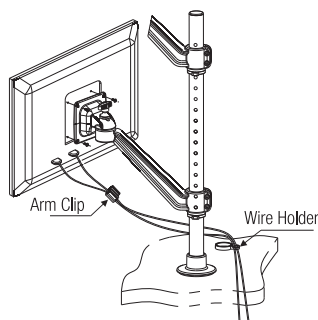

Fig. 5
6. Screw the flat screens to the hanging brackets with M4 screws provided as shown in Fig. 5.